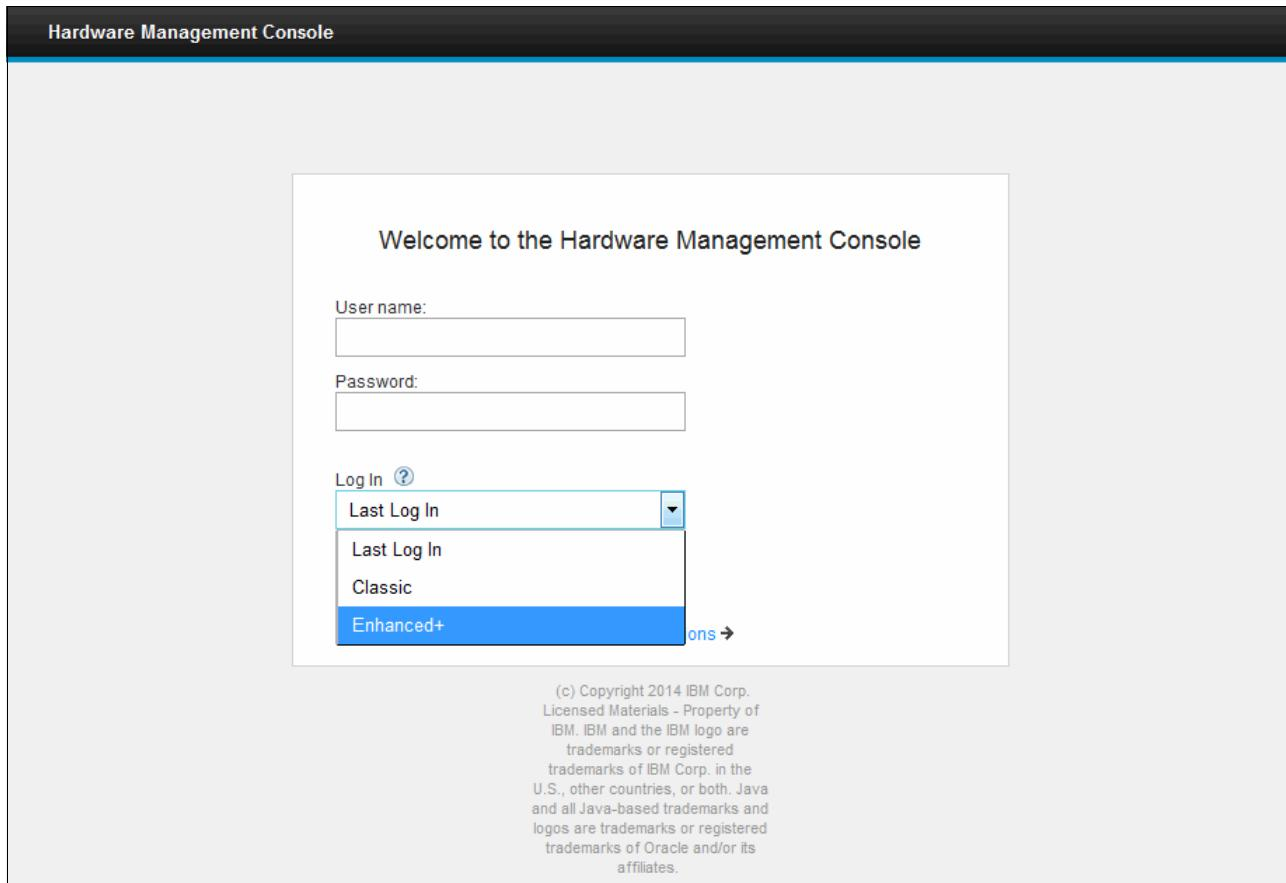

Figure 5-4 Login panel
6. The log in panel opens (Figure 5-4). The HMC is supplied with a predefined user ID, hscroot, and a default password, abc123, which is six characters. After you update the password for hscroot, you can no longer keep it at six characters. The minimum length for a changed password is seven characters.